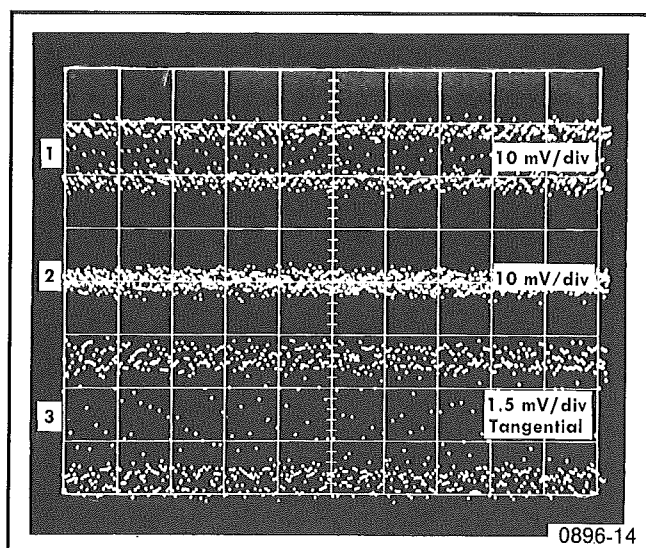

Figure 4-8. Triple exposure of Tangential noise measurement.
d. Refer to Figure 4-8 for displays related to the following noise measurement procedure:
(1) Obtain a display of two traces.
(2) Adjust the variable attenuator until the two traces blend together — just to the point at which they appear as one trace.
(3) Change the Type 284 Amplitude switch to 1.0 V, 10 times the signal amplitude. The display now has a tangential deflection factor of 1.5 mV/div.
The noise displays in Figure 4-8 have a noise deflection factor based upon: the signal amplitude, the sampling unit Units/Div setting, the final trace separation (which is twice the RMS noise), and the tangential noise (which is 3 times the RMS noise). The square wave signal amplitude that makes two traces appear as one sets the trace separation to twice the RMS noise. The following procedure permits a noise deflection factor to be determined by dividing the input mV/div deflection factor by 2 (trace separation is 2 times the RMS noise), multiplying by 3 (tangential noise is 3 times the RMS noise) and then dividing by 10 (the signal amplitude change factor).
- (2) Mark the centers of the 0% zone and 100% zone, 35 ps from the reference break points, as shown in Figure 4-8 (the specified system risetime is 35 ps).
- (3) Mark the average level of the 0% and 100% zones through the centers of the zones.
- (4) Mark the 10% and 90% points in relation to the 0% and 100% average levels.
- (5) Measure the risetime between the 10% and 90% points.